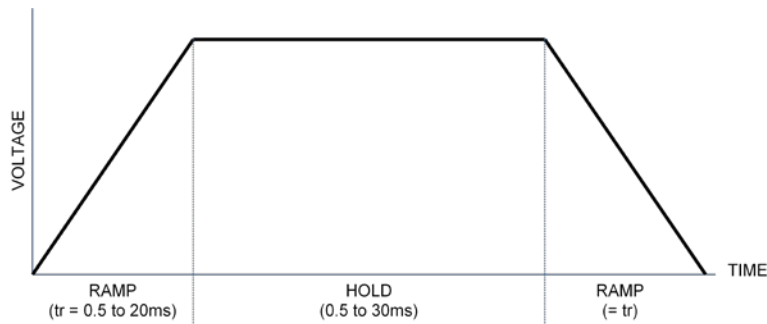
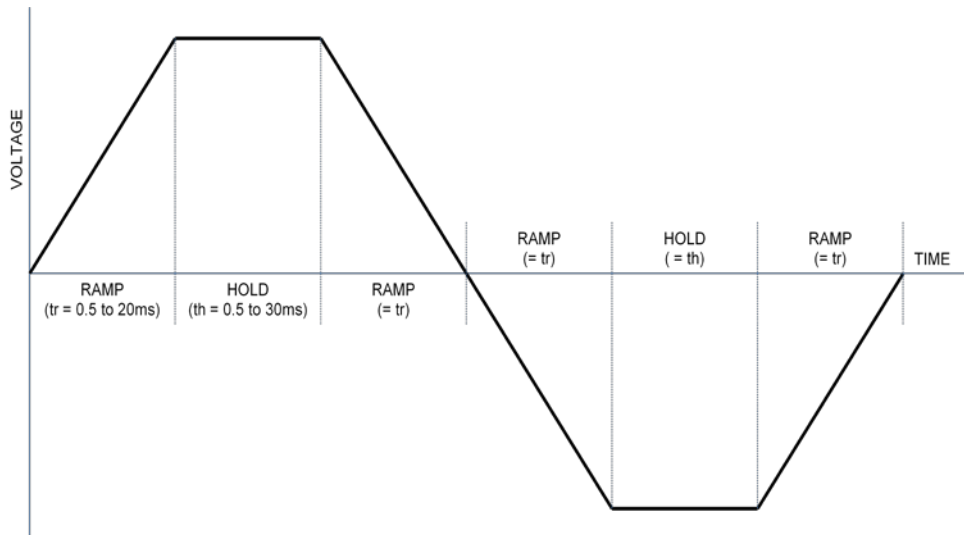

Figure 19 - PULSE Type Unipolar Pulse
Figure 20 - PULSE Type Bipolar Pulse
- **RAMP.** See Figure 19 - PULSE Type Unipolar Pulse and Figure 20 - PULSE Type Bipolar Pulse. The minimum value is 1ms (0.5ms if Opt. AC-2 if installed), and the maximum value is 20ms.
- **HOLD.** See Figure 19 - PULSE Type Unipolar Pulse and Figure 20 - PULSE Type Bipolar Pulse. The minimum value is 1ms (0.5ms if Opt. AC-2 if installed), and the maximum value is 30ms.